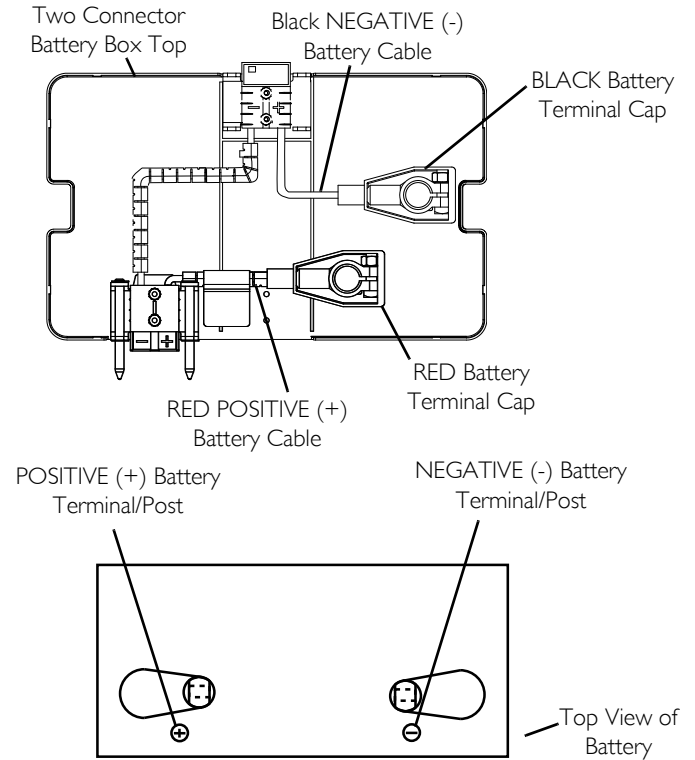

FIGURE 5 Disconnecting/Connecting Battery Cables—Group 24 Batteries
For this procedure, refer to FIGURE 4 on page 104 and FIGURE 5 on page 105.
3. Remove the locknut and mounting screw or clamp to disconnect BLACK battery cable from the NEGATIVE(-) battery terminal/post (Detail “A” of FIGURE 5)
4. Remove the locknut and fuse mounting screw or clamp to disconnect RED battery cable from the POSITIVE (+) battery post (Detail “A” of FIGURE 5).
1. Position battery box top above battery as shown in FIGURE 5.
3. Install the locknut and mounting screw or clamp to connect the BLACK battery cable to the NEGATIVE (-) battery terminal/post (Detail “A” of FIGURE 5).
4. Install the locknut and fuse mounting screw or clamp to connect the RED battery cable to the POSITIVE (+) battery post (Detail "A" of FIGURE 5).